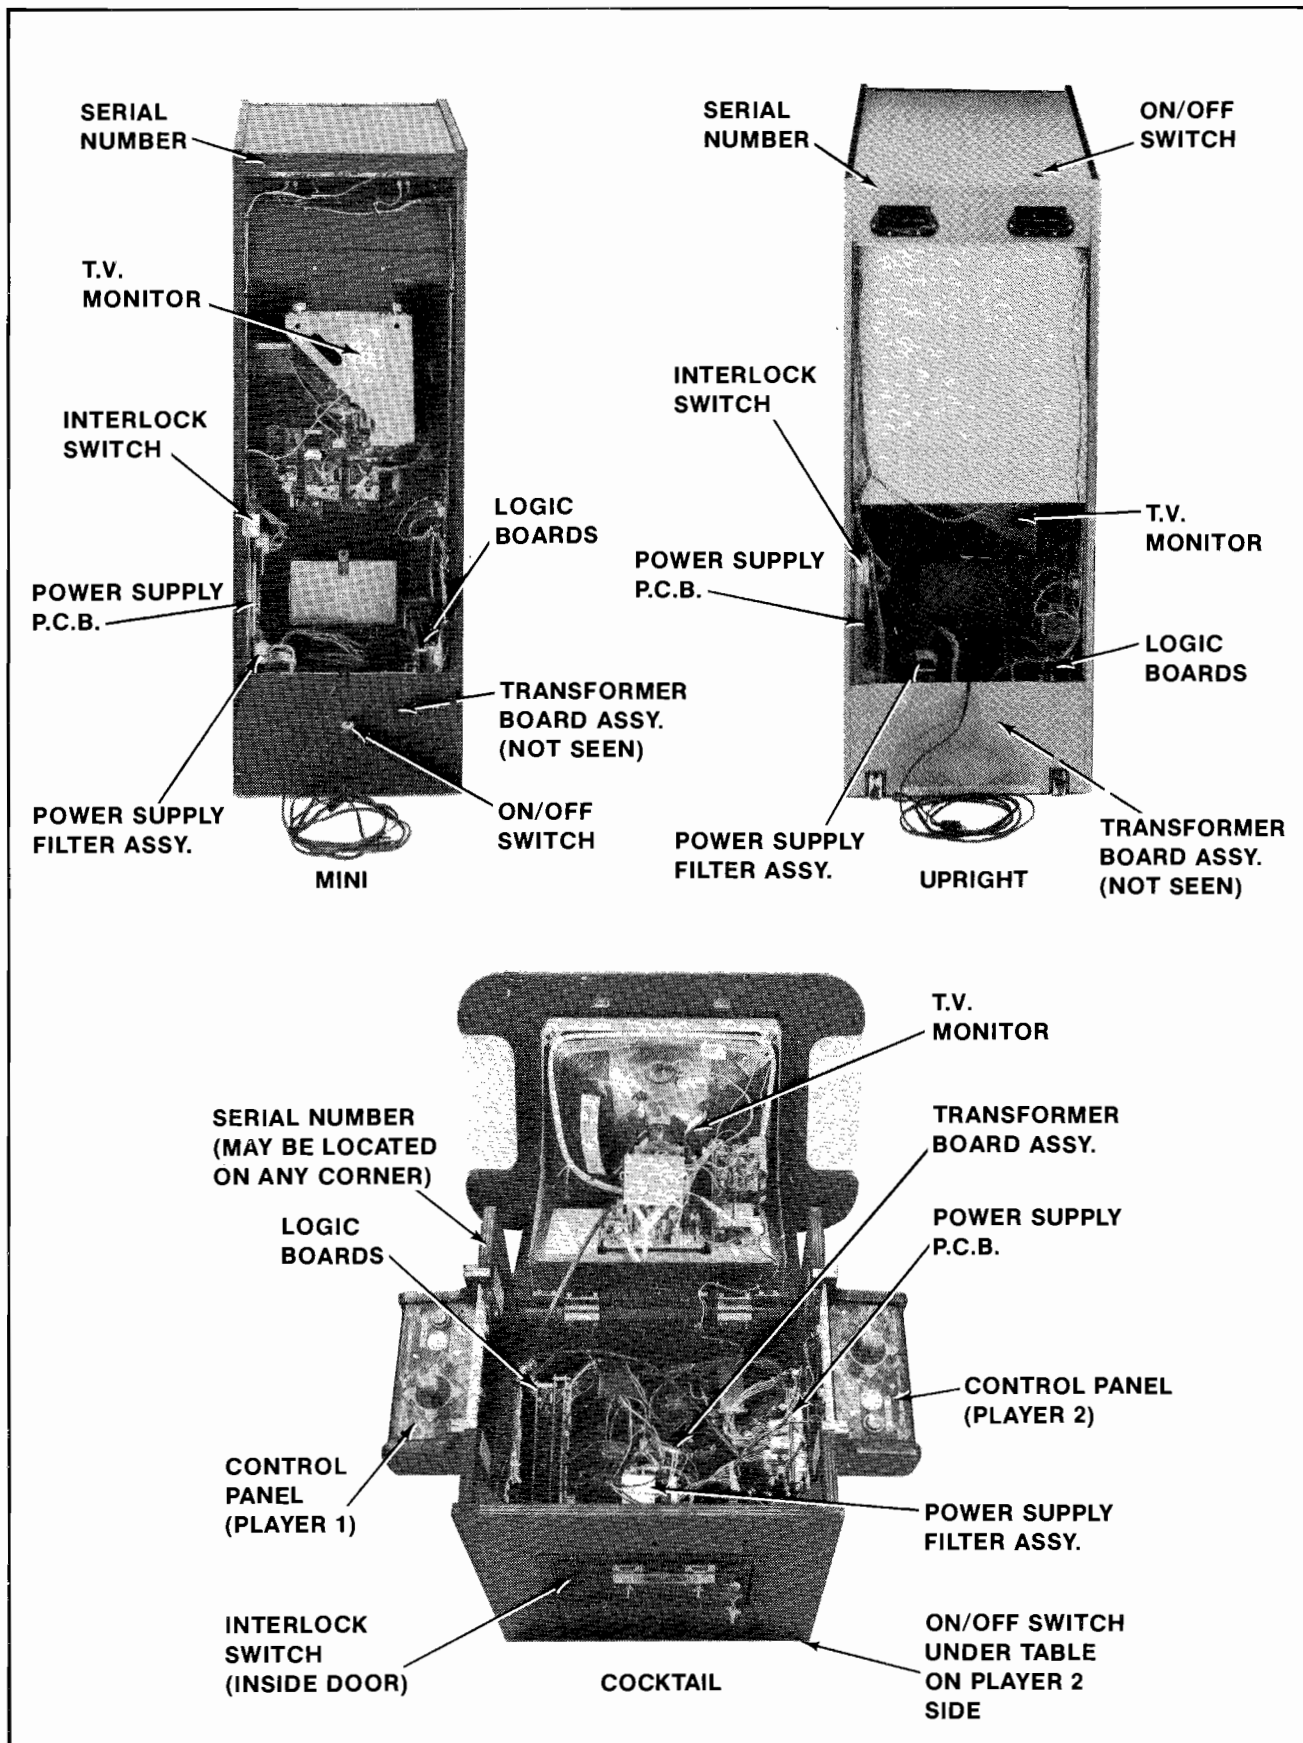

Figure 2-1 Location of Serial No., Interlock Switch, On/Off Switch, & Major Sub-Assys.
5. Open the cabinet and inspect the inside of the game for any signs of damage. See Figure 2-1.
- Make sure all printed circuit boards (P.C.B.'s) are firmly seated in their connectors. See Figure 2-1. These connectors are also keyed. The P.C.B.'s will only go into them one way without being damaged.
- Note the location of the game's serial number. See Figure 2-1.
- Check all major subassemblies to be sure they are mounted securely. These are called out in Figures 2-1 & 2-2.
### 3. Interlock and power ON/OFF switches. See Figure 2-1.
The game ON/OFF switches for all models are located as shown in Figure 2-1. Turn the game on and allow it to warm up a few minutes.